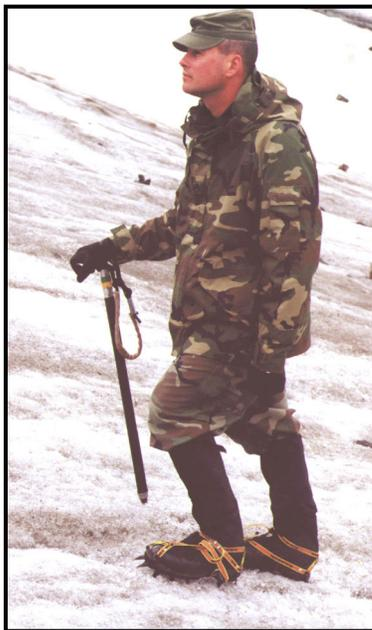

Figure 10-2. Using the ice ax in the cane position.
(1) **Cane Position.** The ice ax can be used on gentle slopes as a walking stick or cane (Figure 10-2). The ax is held by the head with the spike down and the pick facing to the rear in preparation for self-arrest. When moving up or down gentle slopes the ice ax is placed in front as the third point of contact, and the climber moves toward it. When traversing, the ax is held on the uphill side, in preparation for a self-arrest.